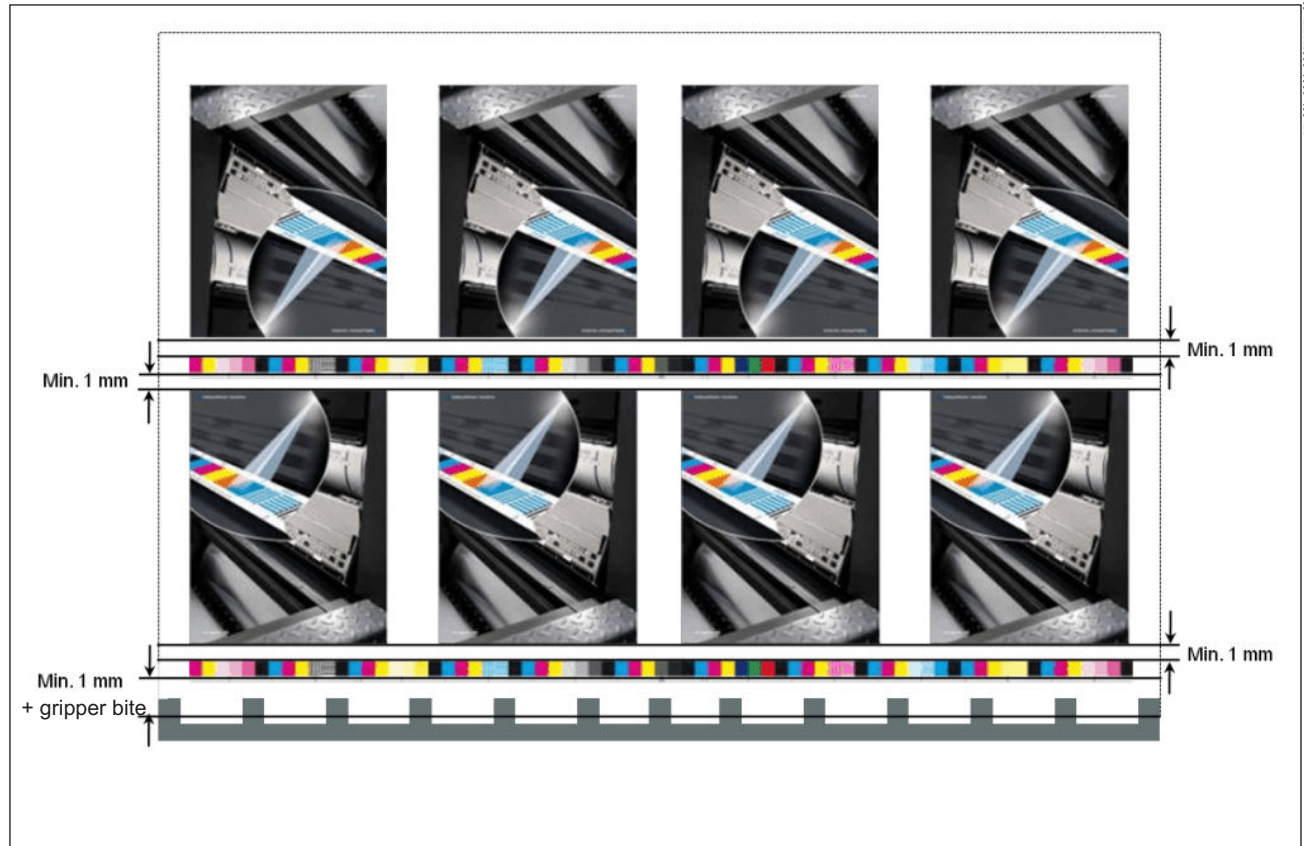

Fig. 19 Mounting Prinect Inpress Control
- You can mount the quality control strip at any position you wish between the gripper margin (Fig. 19/1) and the center of the sheet (Fig. 19/2).